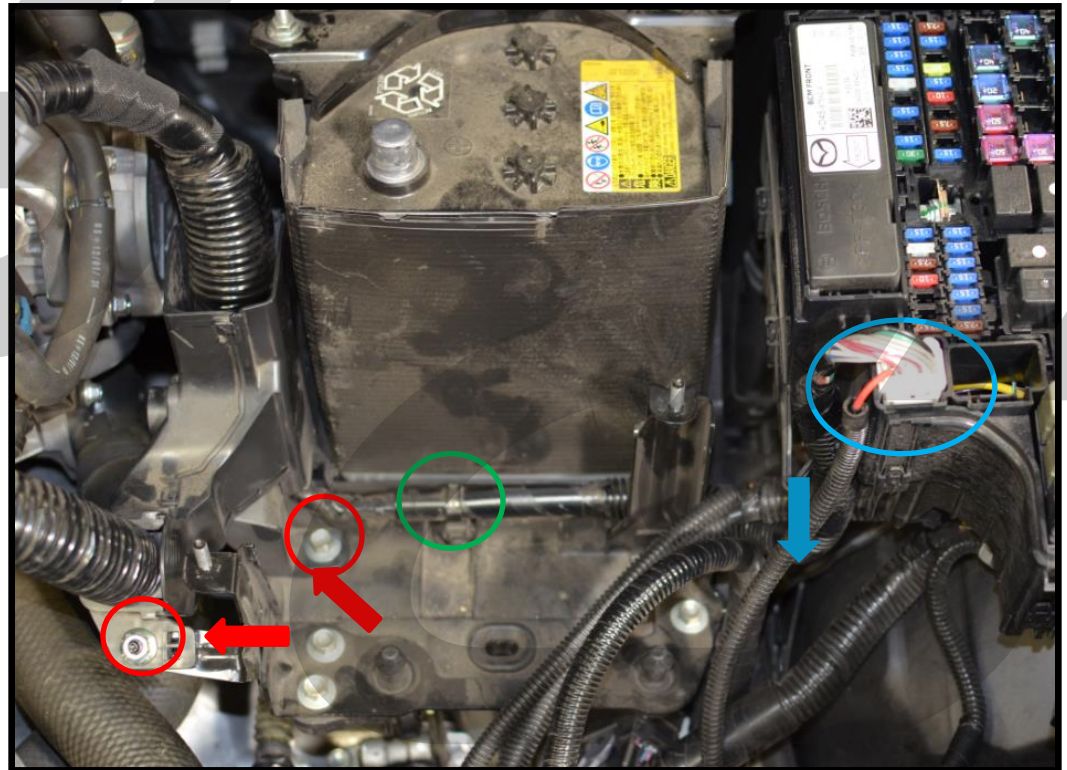

Figure 2d
h) Remove the electrical connector circled in blue in Figure 2d then pull the wire out from behind the plastic hook in the direction of the blue arrow.
i) Remove the two 10mm flange bolts holding the wiring harness assembly. Shown with the red circles in Figure 2d.
j) Use a flathead screwdriver to pop the wiring harness loose. Red arrows in Figure 2d.
k) Pop loose the wiring harness clip using needle nose pliers. Use the pliers from under the battery tray to squeeze the tabs on the clip together then pull the clip and wire up. Circled in green in Figure 2d.